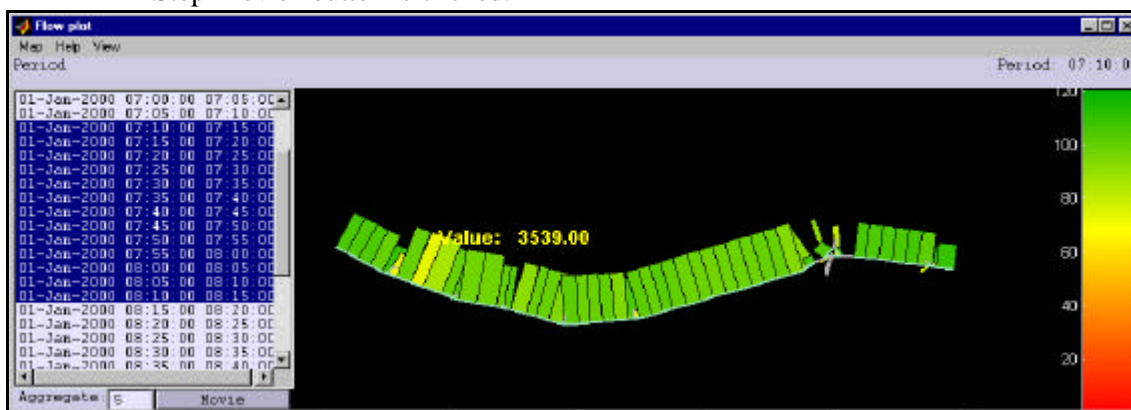

Figure 7: Flow data of the network by selecting the “Show network” from the “View data” menu.
- ◆ Click on “Show flows on the network” from the “View data” menu to visualise the flows on the network see Figure 7. Try the following: